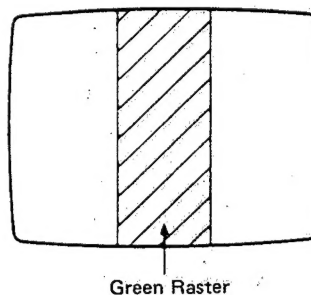

Figure 6
(See figures 6 and 8.)
7. Loosen the purity magnet clamp (See figure 8) and adjust the purity magnet to set the vertical green raster precisely in the center of the screen. (See figure 6) Tighten the clamp.